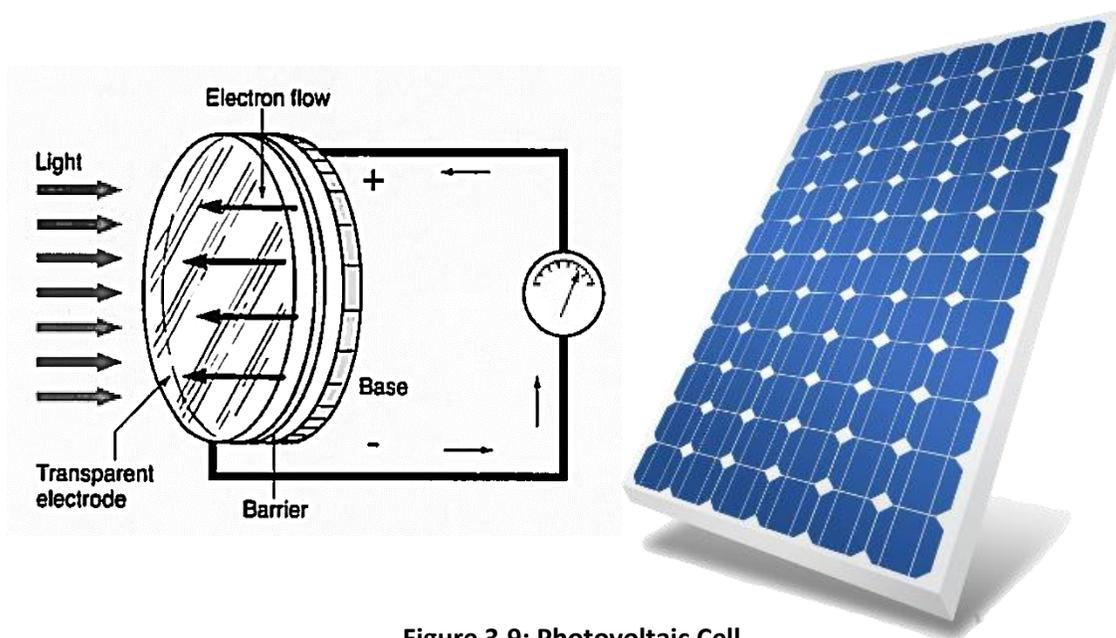

Figure 3.9: Photovoltaic Cell
- 3-47 Photovoltaic devices consist of a transparent electrode and a base of selenium or silicon, separated by a barrier. The construction of the devices is shown in Figure 3.9. Light shines through the transparent electrode and the barrier to the base. Electrons then leave the base and move through the barrier to the transparent electrode. This redistribution produces a potential difference